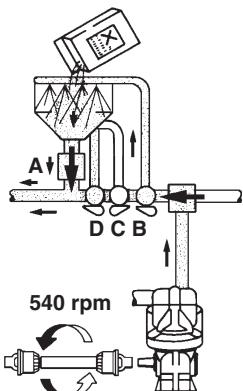

Fig 28
- 5 Open the bottom valve of the filler (**A** Fig 28 & **A** Fig 22). Open the filler lid.
- 6 Engage the hopper flushing device and hopper swirl device by opening their respective valves (**B** Fig 28 & **B** Fig 22) and (**D** Fig 28 & **D** Fig 22).
- 8 Close all the flush and swirl valves (**B**, **C** & **D** Fig 28 & **B**, **C** & **D** Fig 22) once the hopper is flushed.
- 9 Close the bottom valve of the filler (**A** Fig 28 & **A** Fig 22) and the filler lid again.